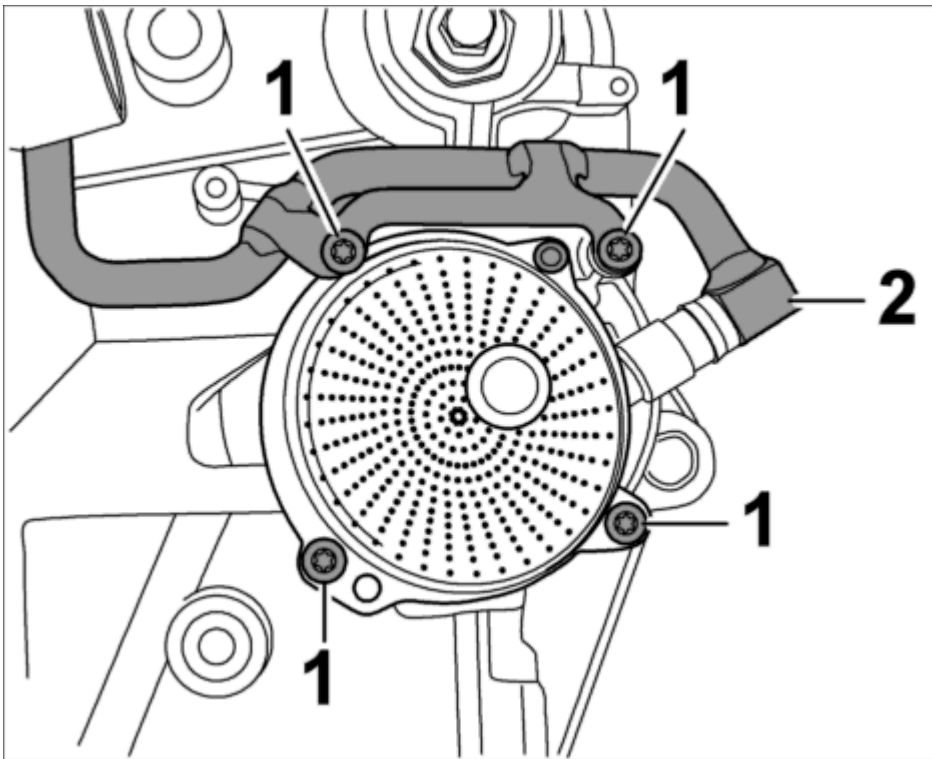

Fig. 216: Tandem pump side 4 - 6
- A tandem pump is installed on side 4-6 instead of the oil suction pump. Pull off the vacuum line on the pump - 2- . Replace O-rings and micro-self-locking screws -1- . See **Fig. 216**.